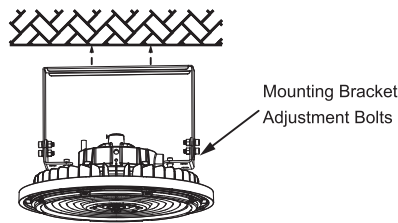

Figure 6
5. Using the enclosed nut, install the U mounting bracket onto the expansion screws, and securely tighten the nuts. (See Figure 6)